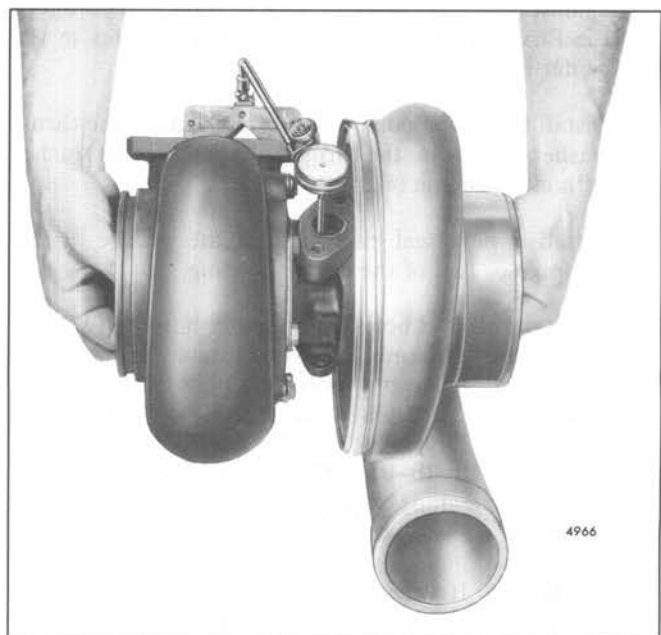

Fig. 12 – Checking Shaft Radial Movement
- a. Position the magnetic base J 7872-2 with the swivel adaptor J 7872-3 on the flat surface of the turbine housing inlet flange as shown in Fig. 12.
- d. Grasp each end of the rotating assembly (Fig. 12) and, applying equal pressure at each end, move the rotating shaft first toward and then away from the dial indicator, creating a transverse movement in the shaft. The dial indicator displacement should be between .003" and .007". If the displacement does not fall within these limits, disassemble and repair or replace the rotating assembly.